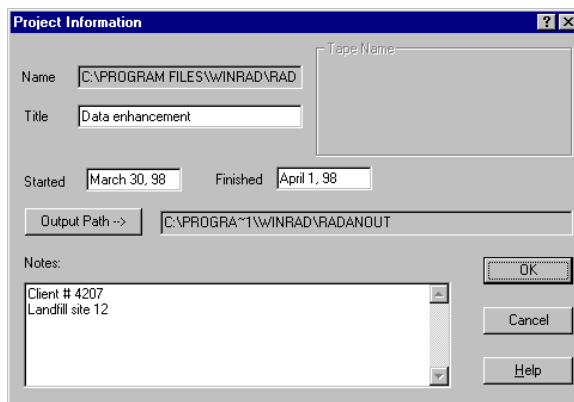

Figure 121: Project Information dialog box.
- 3 The Project Information box (Figure 121) will appear. Type in a title for the project and all the pertinent information associated with that project. You may wish to include client name, job number, location, type of antenna used, and other parameters that are important.